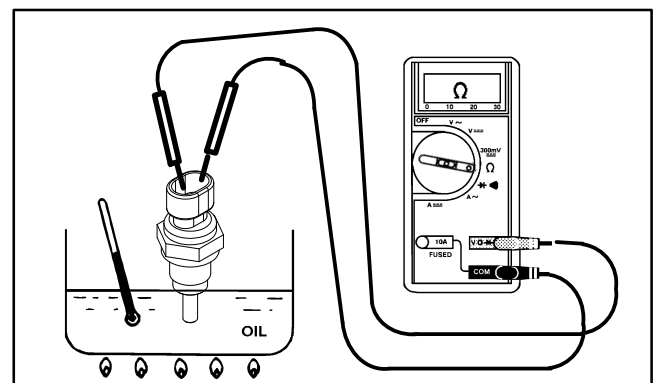

Figure 56
4. Put sensing end of sender in a container of oil with a thermometer and slowly heat the oil (Fig. 56).